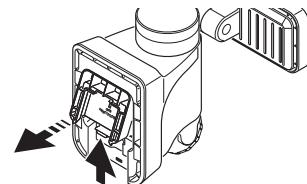

Figure 4
- Press up on the battery compartment cover locking tab and swing the cover out and down to remove (see Figure 4).